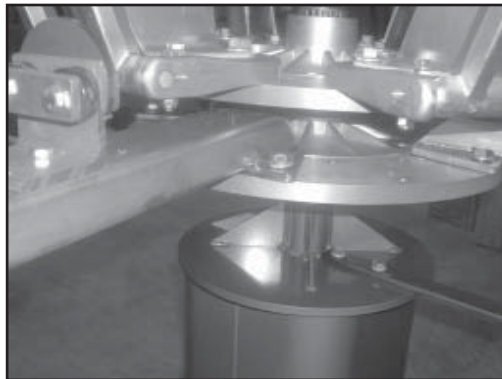

Fig 1
2. Insert the additional (2) 1/2" bolts (Fig 1) to print arm flanges and tighten.